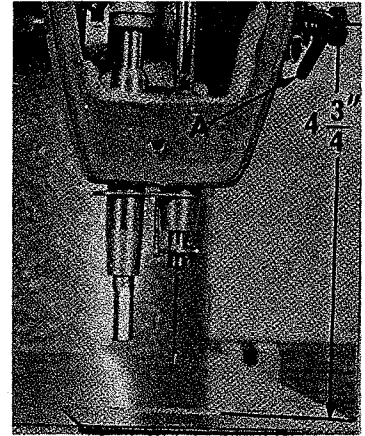

Fig. 16 B
3. Tension release solenoid is secured to flat of bushing (F, Fig. 16 A) with a set screw in bracket. Solenoid plunger pin (E) is to have approximately .005 inch (.127 mm) clearance between it and the tension release pin without thread in the tension disc.
4. The manual tension release cam (G, Fig. 16 A) should be set so that it will not release thread tension when the presser foot is raised for back tacking.